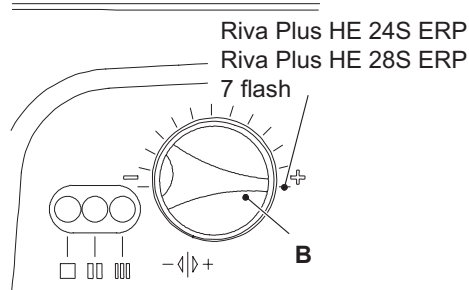

Figure 8.10
At this step it is possible to visualize the current setting by keeping the reset button D pressed for more than 5 seconds. The lamps F will flash a number of times corresponding to the setting Figure 8.10 (seven times for Riva Plus HE 24S ERP, Riva Plus HE 28S ERP).
- 12 To change the setting turn the knob B on a position corresponding to the boiler model (Figure 8.10). By turning the knob B, the lock-out signal lamp E blinks quickly (2 per seconds) indicating that the setting has changed and must be memorised.